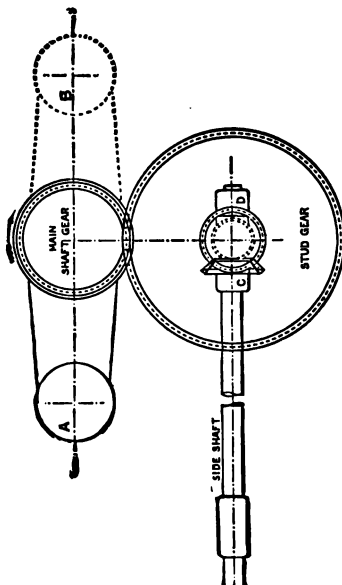
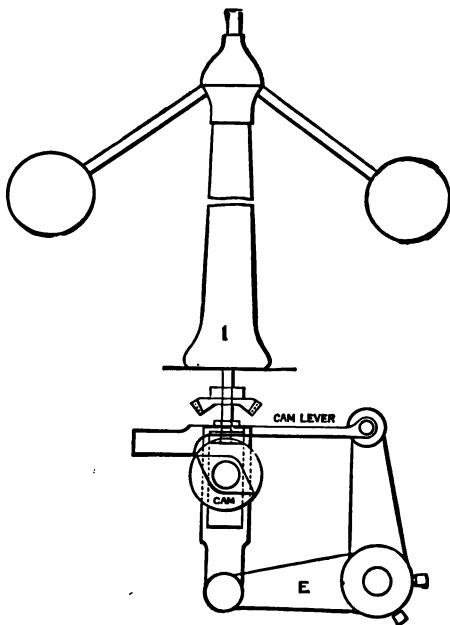
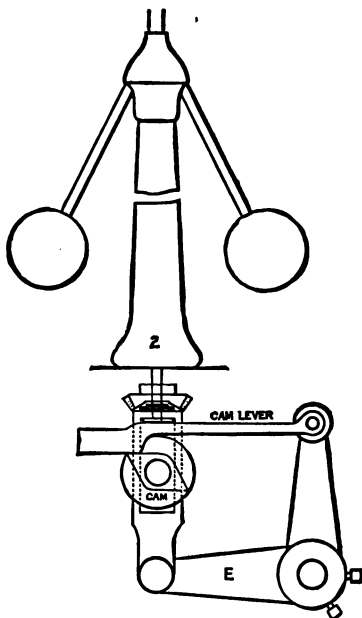

FIG. 44. SIDE SHAFT AND GEAR, PUTNAM ENGINE.
FIG. 46. PUTNAM GOVERNOR.
FIG. 47. PUTNAM GOVERNOR.
**A.** The valves are operated by a side-shaft placed parallel with the axis of the cylinder, and extending beneath the valve-chests and operated by the main shaft through suitable gearings, as shown in Fig. 44. The steam chests are placed one at each end of the cylinder. On this shaft are placed four cams—one for each valve—shaped as shown in Fig. 46. The cams operate, by raising the free ends, cam-levers, which in turn actuate the valves. The two
The outer ends of the levers operating the inlet valves are pivoted to the upper ends of arms rigidly secured to a shaft placed parallel with and outside of the cam-shaft, and having at its centre a third arm, *E*, Fig. 46, which extends to and unites with the governor rod. The governor, of the ball type, is driven by bevel gears from the cam shaft, and its lower end is slotted to inclose the cam shaft, and extend to the arm *E*. The raising and lowering of the governor rod will partly turn the shaft carrying the arm and thereby move the inlet-cam levers toward or from the valve stems in a horizontal direction. The free ends of these levers are shaped as shown in Fig. 46 the under side of the lever being cut away on a curve directly over the cam. When the cam lever is in the position shown in Fig. 46, it will not be lifted by the cam, which revolves in the direction of the hands of a watch. The governor balls are now at their highest possible point. In Fig. 47 the governor-balls are shown at their lowest